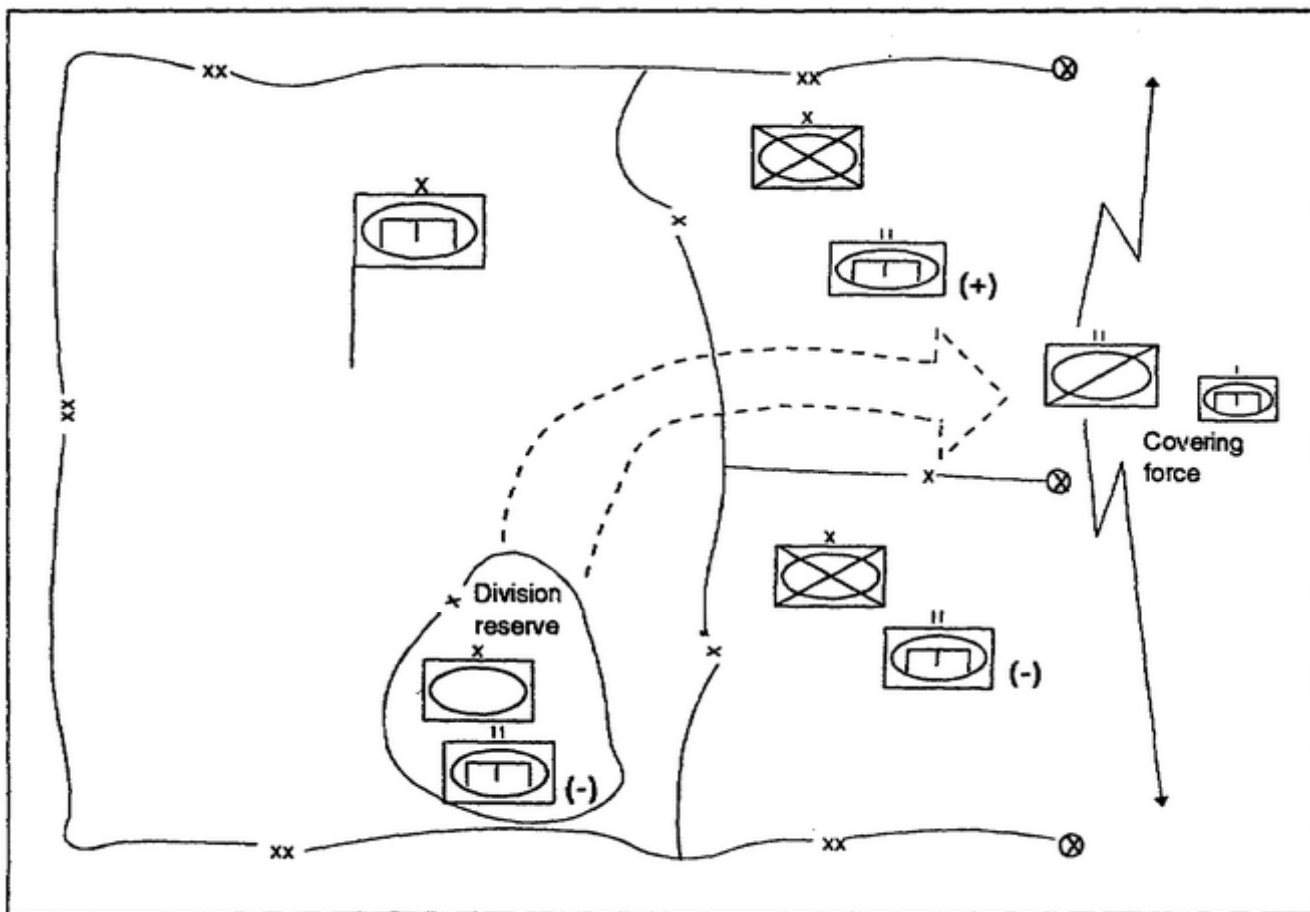

Figure 2-3. Division engineer brigade defense.
- (1) Each maneuver brigade normally has an associated division engineer battalion. The division engineer battalion usually trains and operates with its associated ground-maneuver brigade. This battalion can have additional elements attached from other division engineer battalions or corps when supporting the main effort. It can also have elements detached from it and attached to another battalion when supporting a secondary effort.
- (2) An armored division normally consists of ten maneuver battalions and a cavalry squadron. The number of division engineer companies is insufficient to habitually associate one with each ground maneuver battalion. Even brigades that have three maneuver TFs should not blindly give each TF a division engineer company if the tactical estimate does not support the allocation. Division mission-essential tasks help set up habitual association for division engineer companies. A maneuver brigade's main TF often has one or more division engineer companies in support, but other TFs have less. Weighting the engineer effort enables a maneuver brigade commander to retain flexibility when employing engineers and delegating tasks between engineers from TF through division level.
- (3) Figure 2-3, page 2-8, shows an example of organic and corps engineers in an armored division area for a defensive operation. The division's main effort is in the north. The division cavalry squadron has a screen mission on the division's southern flank. The reserve brigade's anticipated employment is to counterattack in the north, and the engineer laydown supports this defense.
- (4) The division engineer battalion that supports the main-effort brigade has an additional division engineer company from the reserve brigade. The main-effort division engineer battalion has four division engineer companies under its control. The battalion that supports the secondary effort has a company detached to support the cavalry covering force, which is the screen for the division. The battalion retains two subordinate companies for a total of four division engineer and two A&O platoons. The reserve brigade has a division engineer battalion minus one company that prepares for a counterattack in the assembly area and provides mobility and survivability the reserve brigade. A corps RB company is similarly positioned to rapidly move forward and support the reserve brigade's movement over a river. The division engineer brigade headquarters closely monitors engineer support to the reserve brigade and controls other engineer activity in the division rear area.
- (5) A corps combat engineer battalion is in DS of the division and works on given tasks and priorities in the rear area. The CSE company